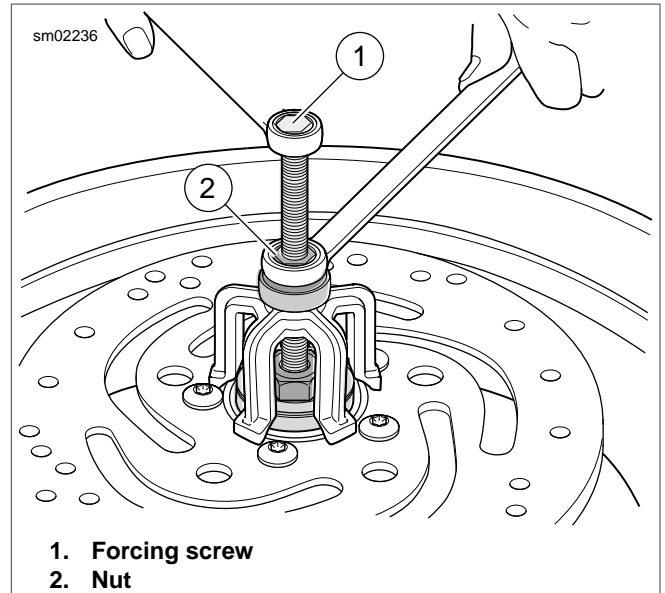

Figure 2-16. Remove Bearing
- a. Sparingly apply graphite lubricant to threads of forcing screw (1) to prolong service life and provide smooth operation.
- b. Install nut (2), washer (3) and Nice bearing (4) on screw. Insert assembly through hole in bridge (5).
- c. Drop ball bearing inside 25 mm collet (6). Fasten collet and ball bearing to forcing screw.
5. See Figure 2-16. When expanded collet has gripped bearing edges, hold end of forcing screw and turn the nut to remove bearing from wheel.